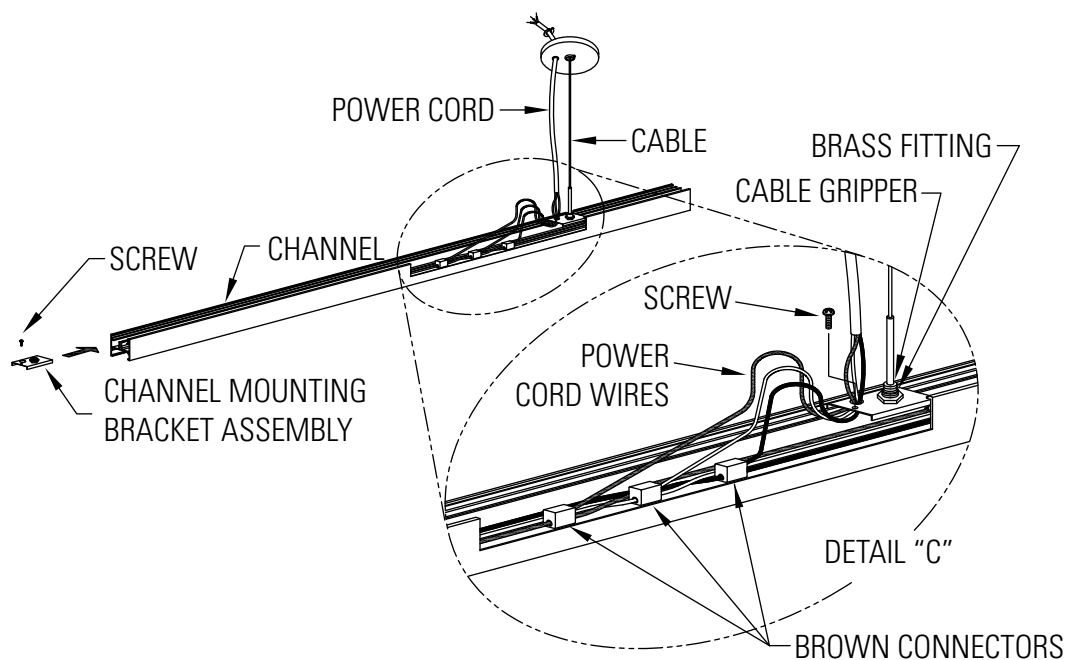

Figure 8
- A. Install CHANNEL MOUNTING BRACKET ASSEMBLY and slide bracket into CHANNEL. (Fig. 8)